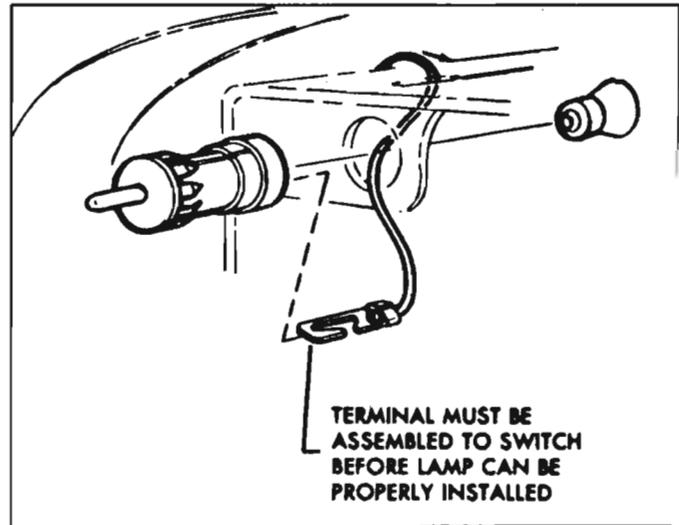

Fig. 8-112—Instrument Panel Compartment Lamp Switch Installation
2. Push switch out of mounting hole. Carefully pull wire and terminal out of switch (fig. 8-112).